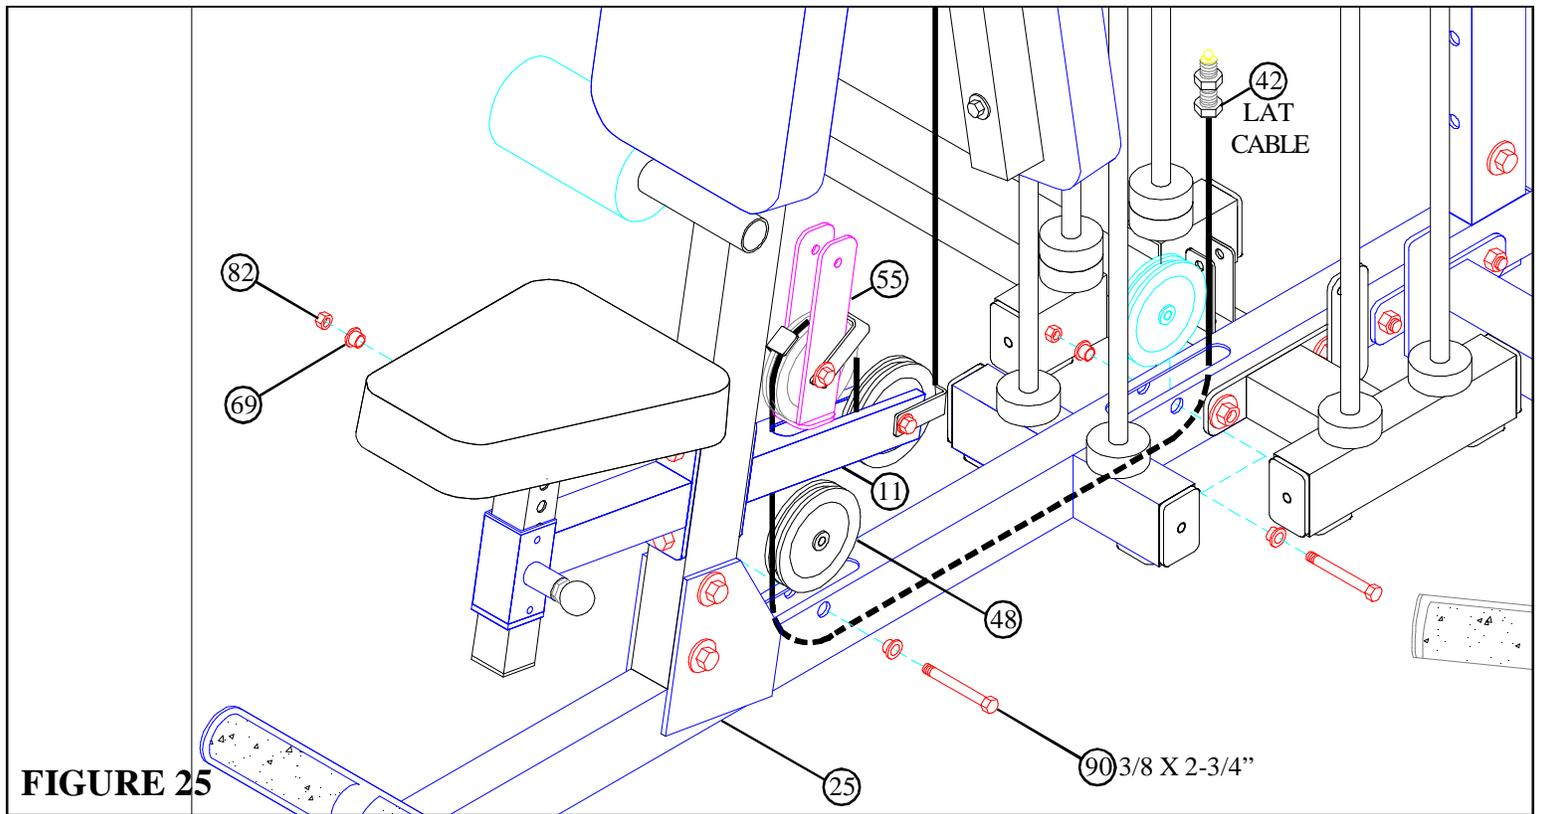

FIGURE 25
- Route the LAT CABLE (42) around the pulley in FLOATING PULLEY STOP (11) and the FLOATING PULLEY BRACKET (55) as shown in FIGURE 25. (NOTE: The CABLE CLIPS may need to be loosened.)
- **SECURELY** assemble two 4-1/2" PULLEYS (48) into the slots of the BASE (25) using two 3/8 X 2-3/4" BOLTS (90), four 3/8" FLANGE SPACERS (69), and two 3/8" LOCK NUTS (82). (NOTE: Loop the cable around each pulley prior to inserting it in the the slot.)